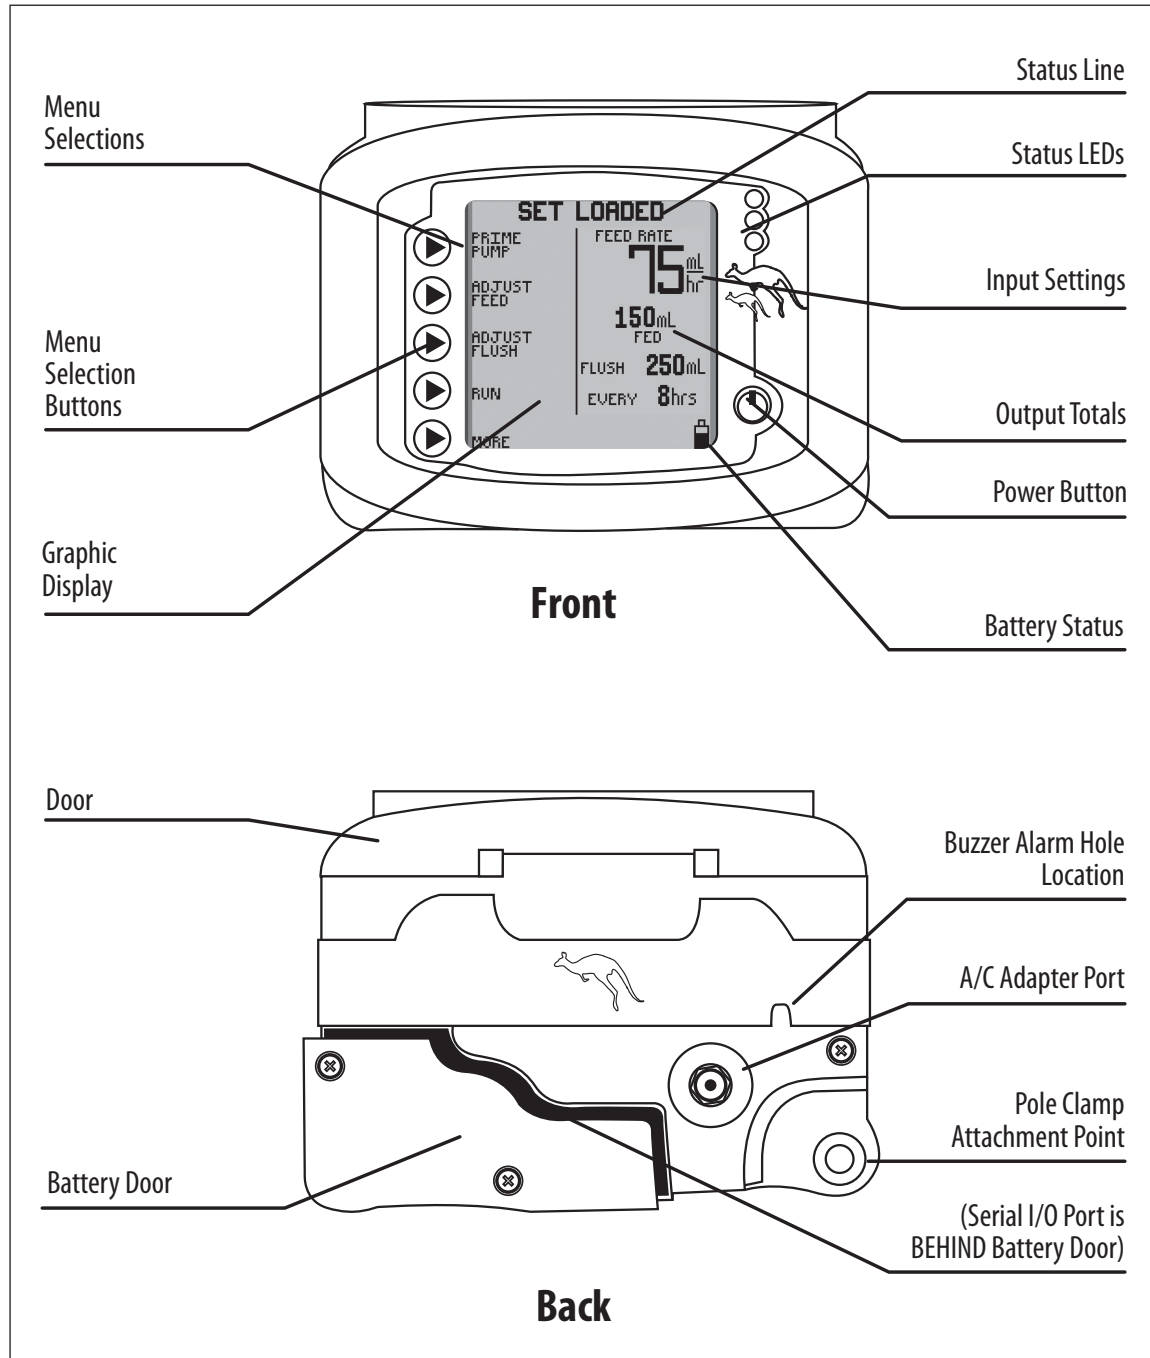

Figure 1A. KANGAROO JOEY Enteral Feeding Pump features, front and rear views.
13. **WARNING:** The serial I/O port (see Figure 1A) is intended only for use by the manufacturer.
Plug the Power Cord into the A/C Adapter Port on the back of the pump. See Figure 1A to locate port on pump.